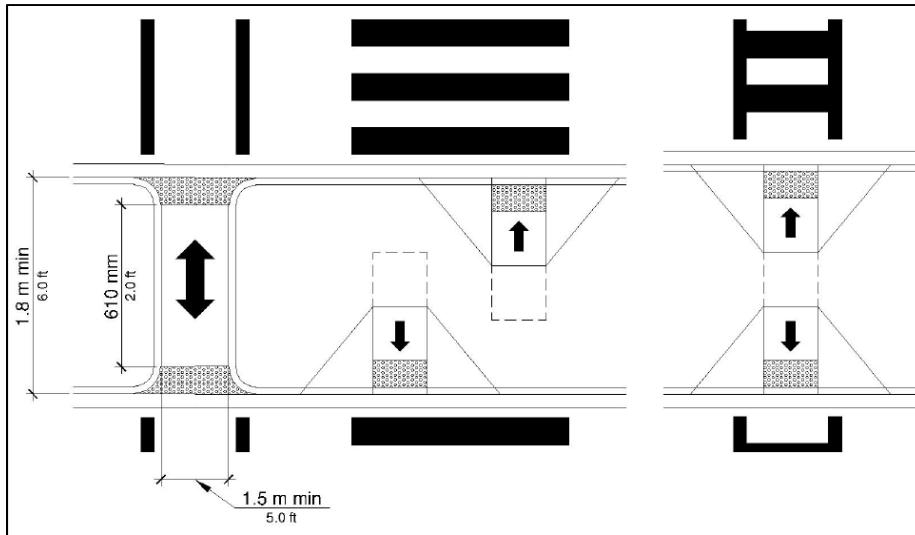

Figure 5 -Pedestrian Refuge Island
- Detectable warnings at cut-through pedestrian refuge islands are separated by a 2 ft. minimum length of surface without detectable warnings (see **Figure 5**). *PROWAG R305.2.4*